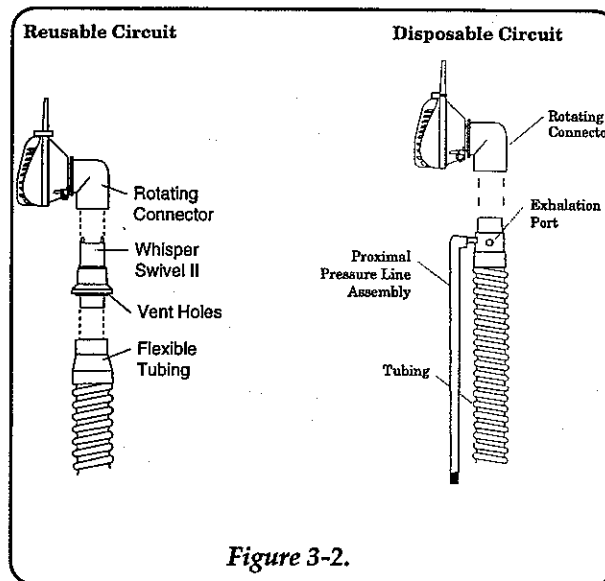

Figure 3-2.
Step 2 Assemble the patient circuit as shown in Figure 3-2. Position the circuit so that the gas vents on the side of the swivel (or exhalation port) are facing away from the patient's face.